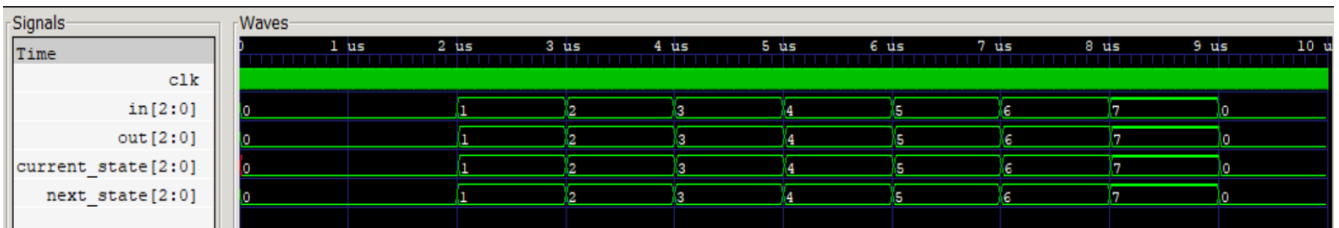

Figure 6. Simulation Results
8. Launch the GTKWave Software to observe the simulation results using the testbench stimuli (See Figure 6)